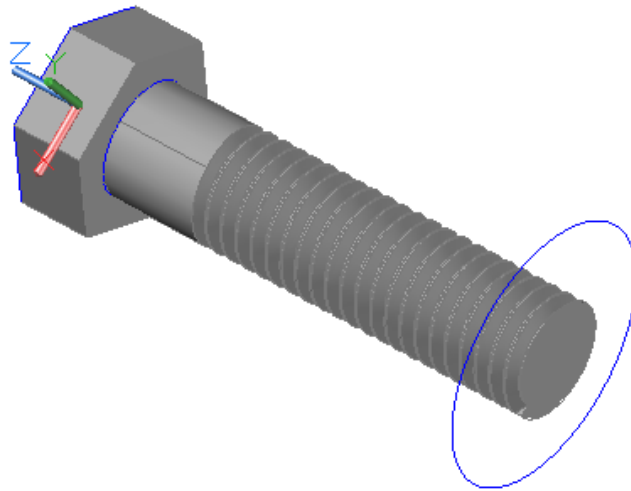

Figure Step 14
Step 14 Using what you learned in the last workalong, on layer: Pline, draw 1.5 diameter circle locating its center at the center of the bottom of the bolt. (Figure Step 14)